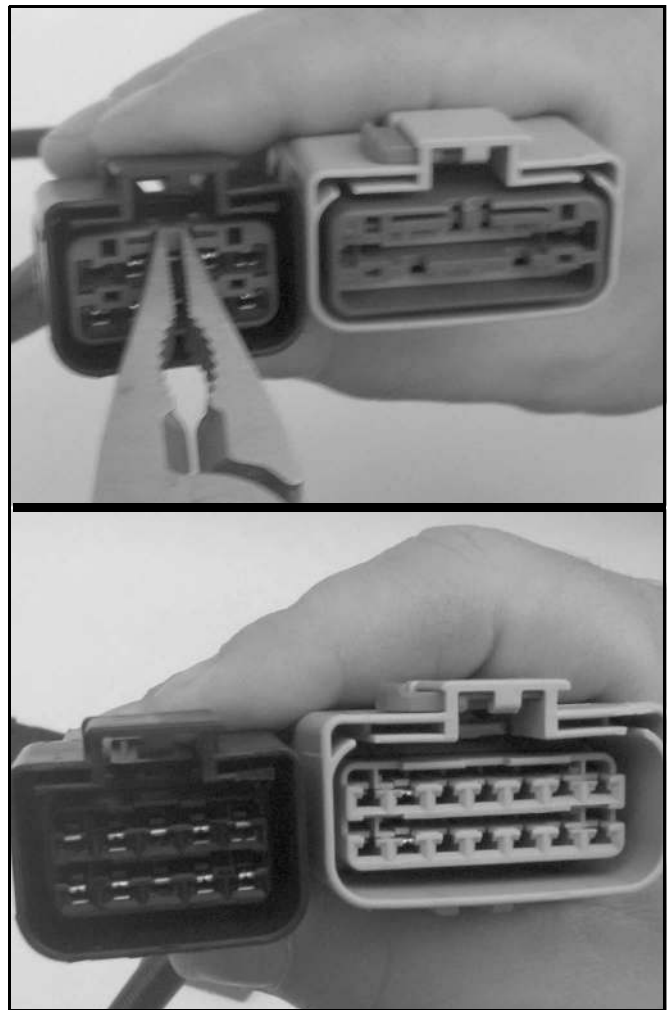

Figure 6
6. Using needle nose pliers, pull out the Blue secondary locks in the Black and Gray female connectors of both harnesses. (See Figure 6.)